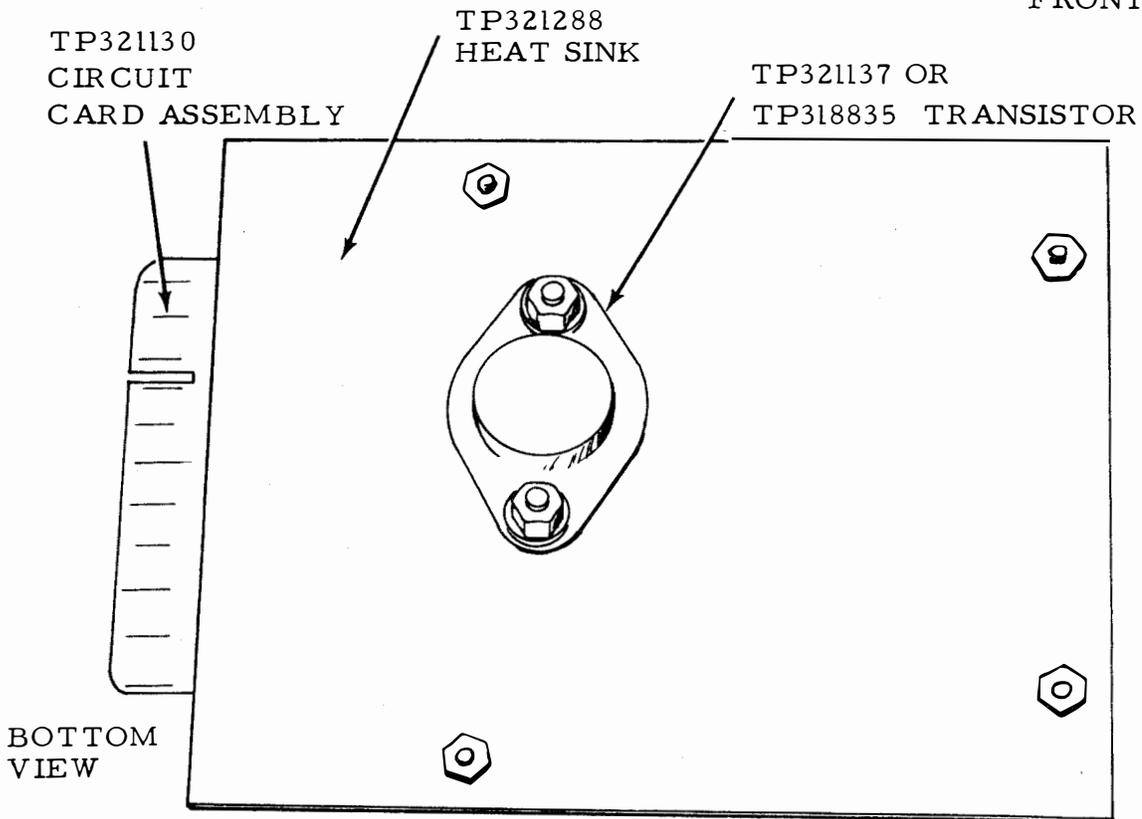

Figure 3-24. Power Supply (0.5 Ampere) TP321290
(4) The outer box contains the inner box, a power supply transformer, power line filter, and a screw terminal block for ac power connections. A power switch and fuse are located on one side of the outer box.
(5) The power supply transformer and rectifier filter capacitor form an assembly capable of meeting the power supply requirements specified in table 1-1 when used in conjunction with a power supply card.
b. Power Supply (0.5 Ampere) TP321290. The 0.5 ampere power supply circuit card is shown in figure 3-24 and